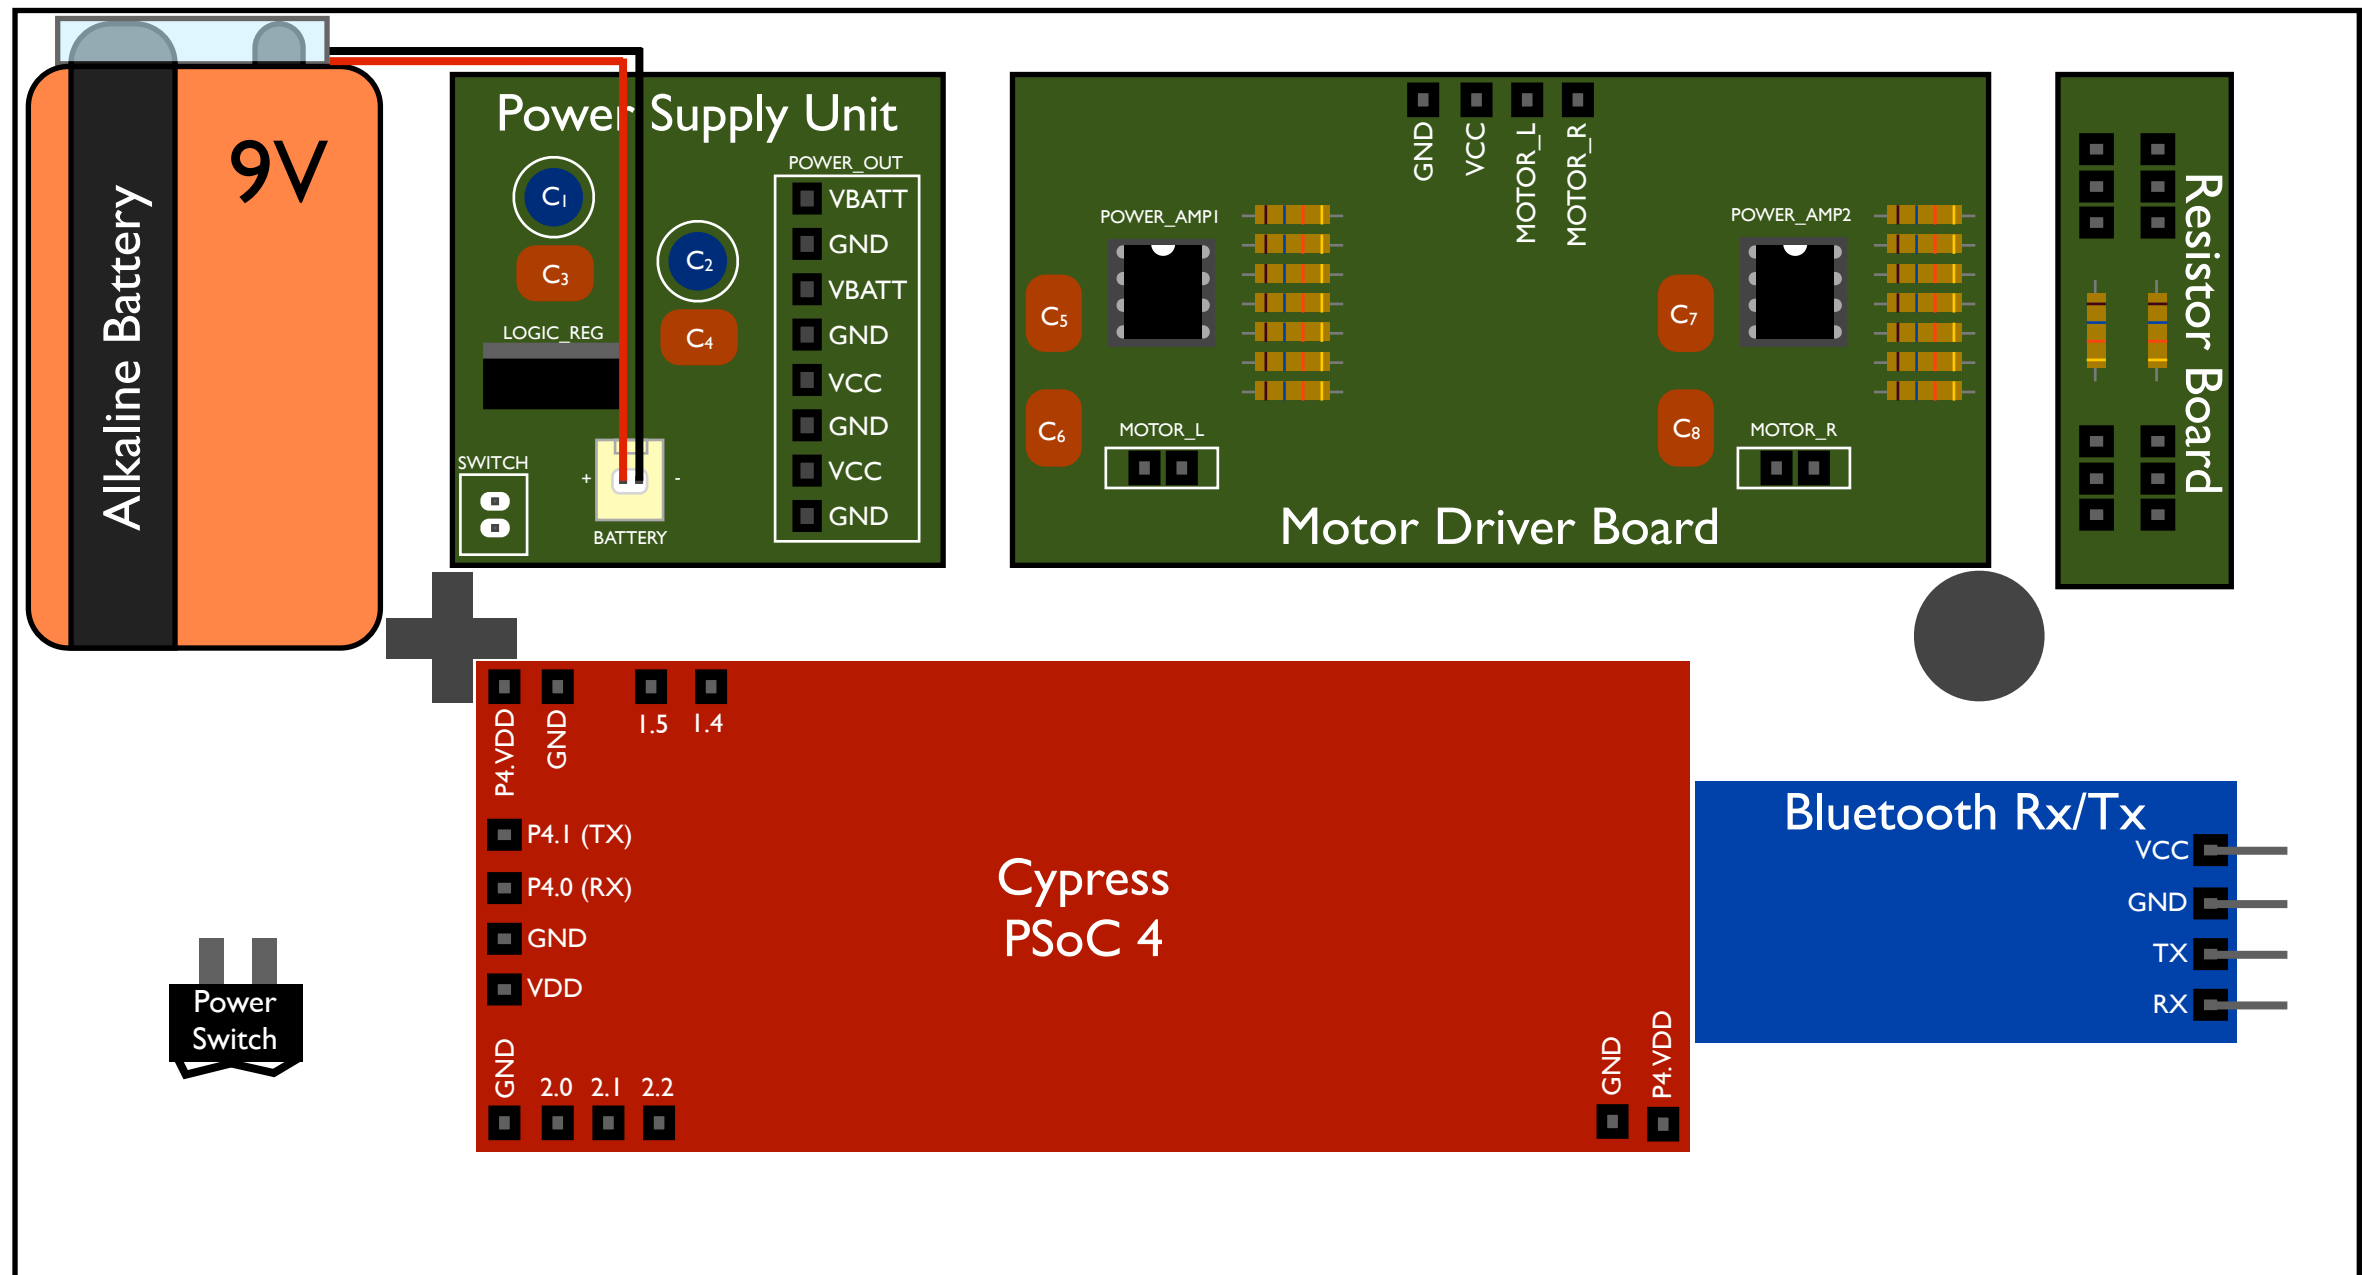

Figure 2. Connecting PSU and battery using snap-molex connector
2. Connect PSU and battery (Figure 2)